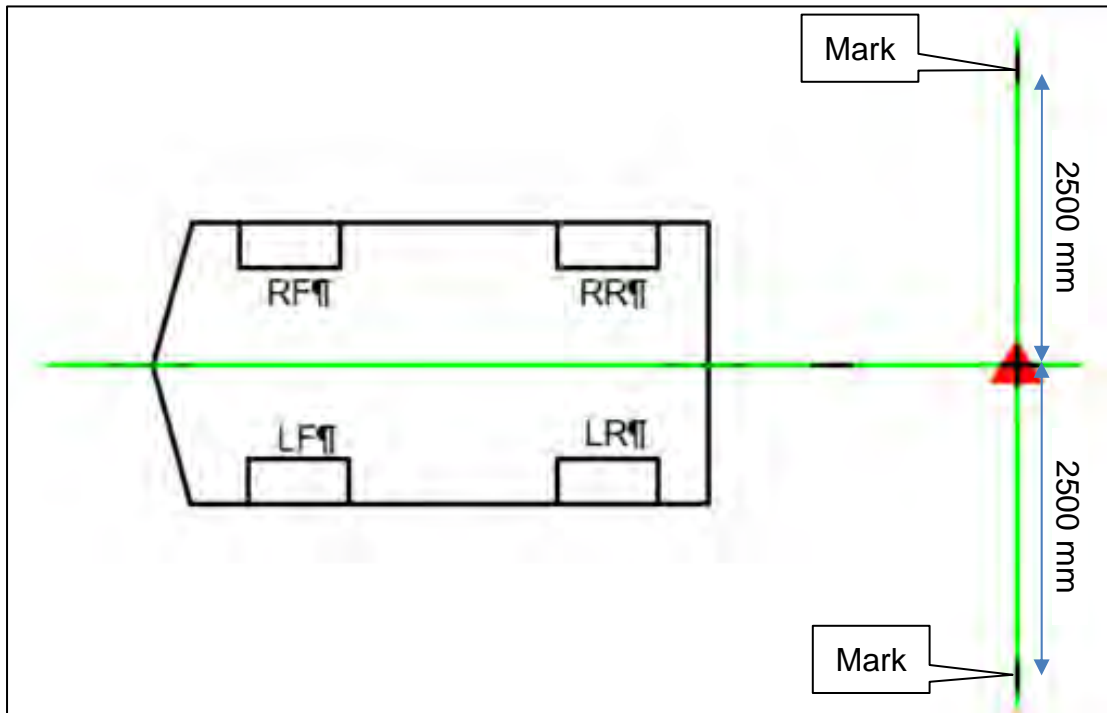

Figure 77
51. Measure and place a mark 2500 mm to the left and to the right of the laser level, as shown in Figure 77.